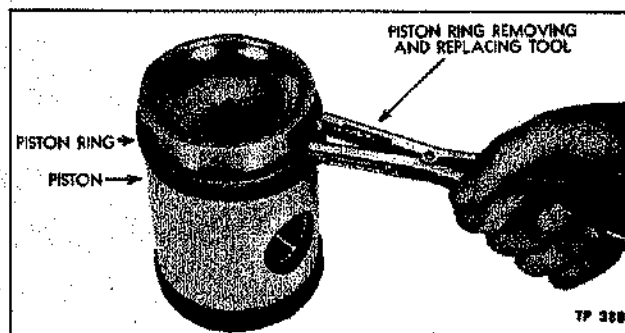

Figure 38—Removing and Installing Piston Ring with Tool
1. Secure connecting rod in a vise equipped with soft jaws. Remove piston rings from pistons using remover and replacer tool in manner illustrated in figure 38.
After the proper gap has been fixed, the rings may be installed on the piston with tools as shown in figure 38.